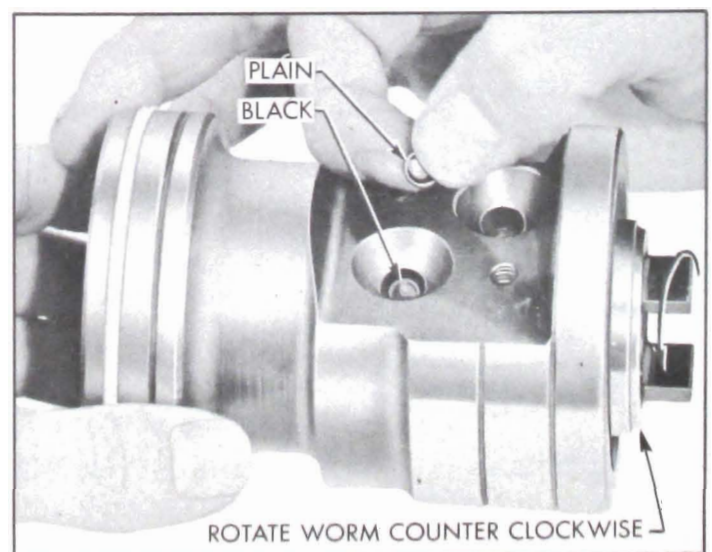

Figure 8-51—Loading Balls in Rack-Piston Nut
4. Align the ball return guide holes in the rack-piston nut with the worm groove. Load 16 balls, 8 plain and 8 black in alternate sequence into the guide hole nearest the piston ring while slowly rotating worm counterclockwise. See Figure 8-51.